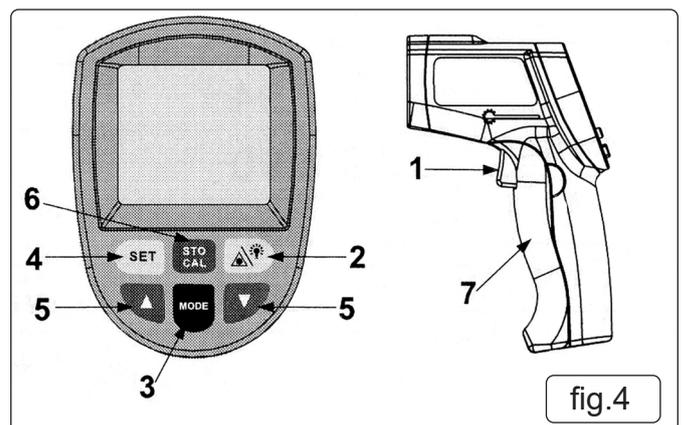

fig.4
4.3. Buttons and Controls (fig.4)